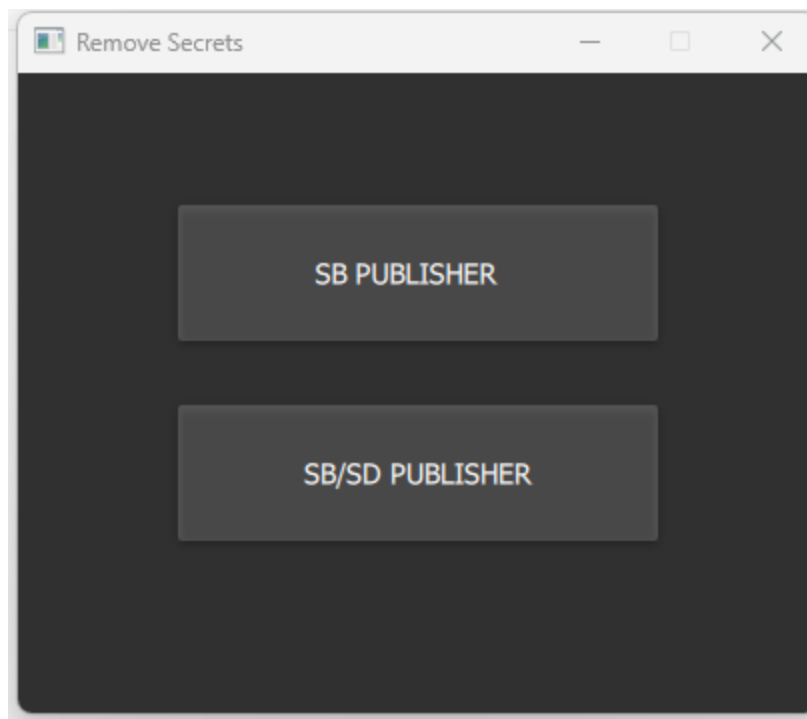

Figure 52. Remove secret keys in Secure RMA
3. Click the needed target publisher that should send the SBOOT directory and what files should be removed accordingly, see Figure 52.